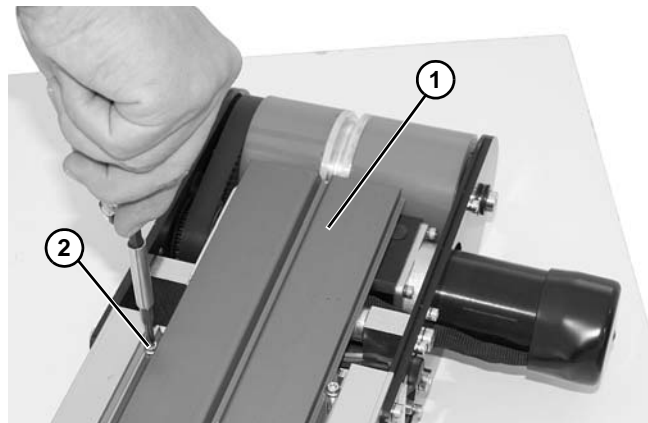

Figure 136
2. Remove wear plate (Figure 136, item 1) by removing plate fastening screws (Figure 136, item 2) on each side and end of conveyor